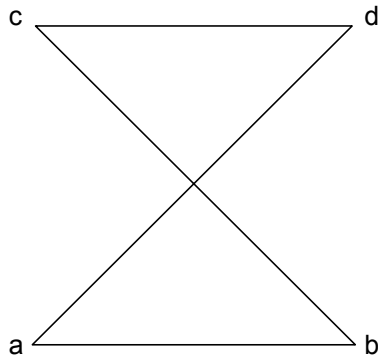

Fig. 3-176 Measurement not Allowed (example)
- (12) Area calculation with this function is performed through triangle-based approximation. Therefore, measurement is not allowed if polygons are formed by drawing intersecting lines from coordinate points as in the example shown in Fig. 3-176, in which coordinate points are specified in the order of "abcd".